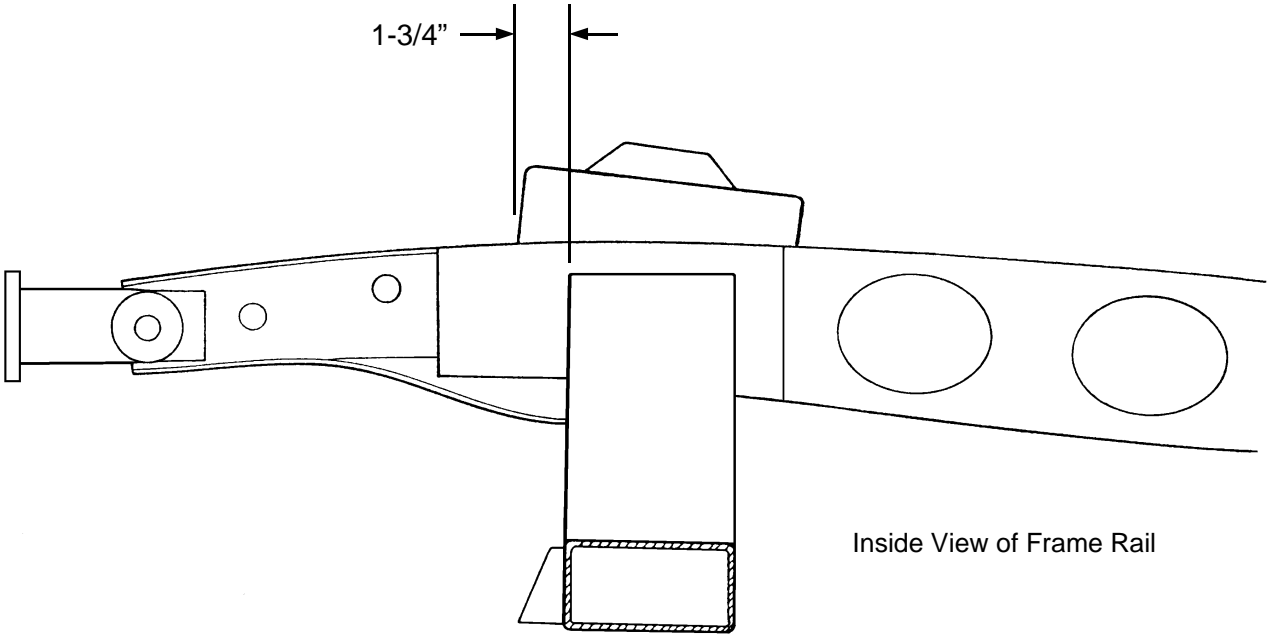

Figure 4
7. Next are the spring towers. They sit on top of the frame rails, and are located as shown in Figure 4, 1-3/4" forward of the crossmember measuring from the front of the crossmember to the front of the spring tower. The higher side of the spring tower goes towards the front of the frame. Clamp in place, double check your dimensions, then weld all around, including the flanges down the sides of the rails. For added strength, you can also weld the inside of the flanges.